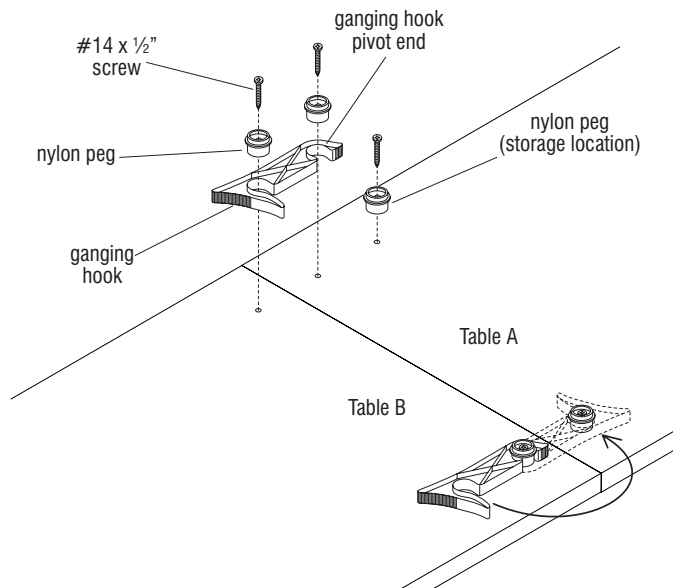

Figure 1
1. Locate pre-drilled holes for nylon pegs under tables A & B. At each hole location, insert a #14 x 1/2" screw through a nylon peg and tighten pegs to tables as illustrated. Do not exceed 50 in/lbs of torque (Figure 1).
2. To gang tables together, snap the pivot end of the ganging hook onto the peg closest to the table end of either table. Then rotate the ganging hook to engage onto the nylon peg on the adjoining table (Figure 1).
3. To store ganging hook, move table sections apart and rotate hook end of ganger onto the storage peg as shown (Figures 1 & 2).